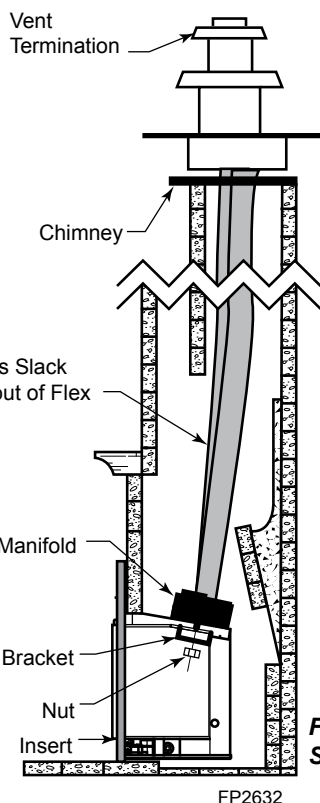

**Figure 11 -
4. Attach flex vent to manifold. *Figure 11.* Seal with silicone and attach with screws.